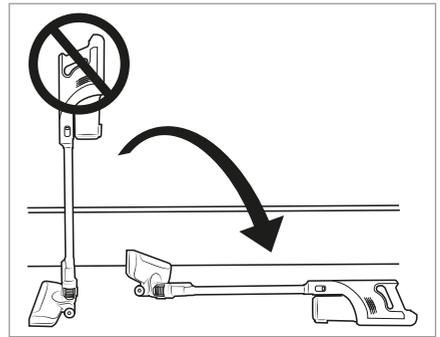

Fig. 9
- ▶ Do not try to place the vacuum cleaner upright when you want to put it down or take it out of your hand in the meantime. To do this, place the vacuum cleaner in the wall bracket **18** or lay it on the floor (see Fig. 9 and 10). Due to its high centre of gravity, the vacuum cleaner may otherwise tip over and be damaged and possibly damage other objects when tipping over.